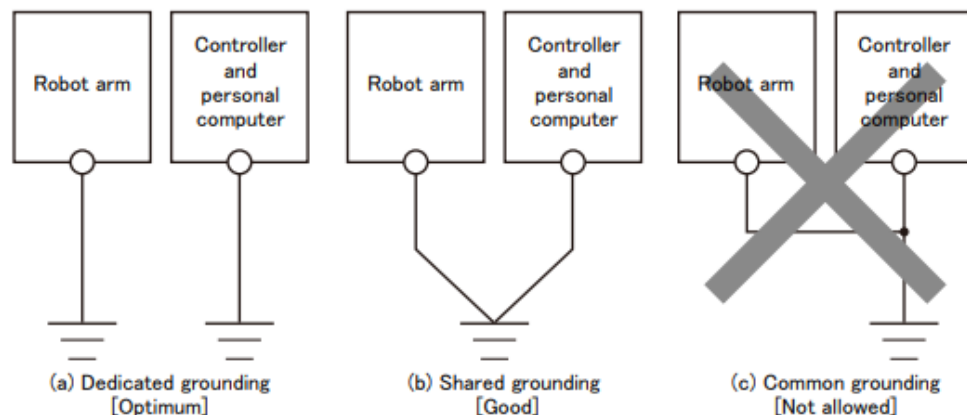

Fig.2-8 : Grounding methods
- 1) There are three grounding methods as shown in Fig. 2-8, but the dedicated grounding (Fig. 2-8 (a)) should be used for the robot arm and controller when possible. (Refer to the separate "Controller Setup, Basic Operation and Maintenance" for details on the controller grounding.)